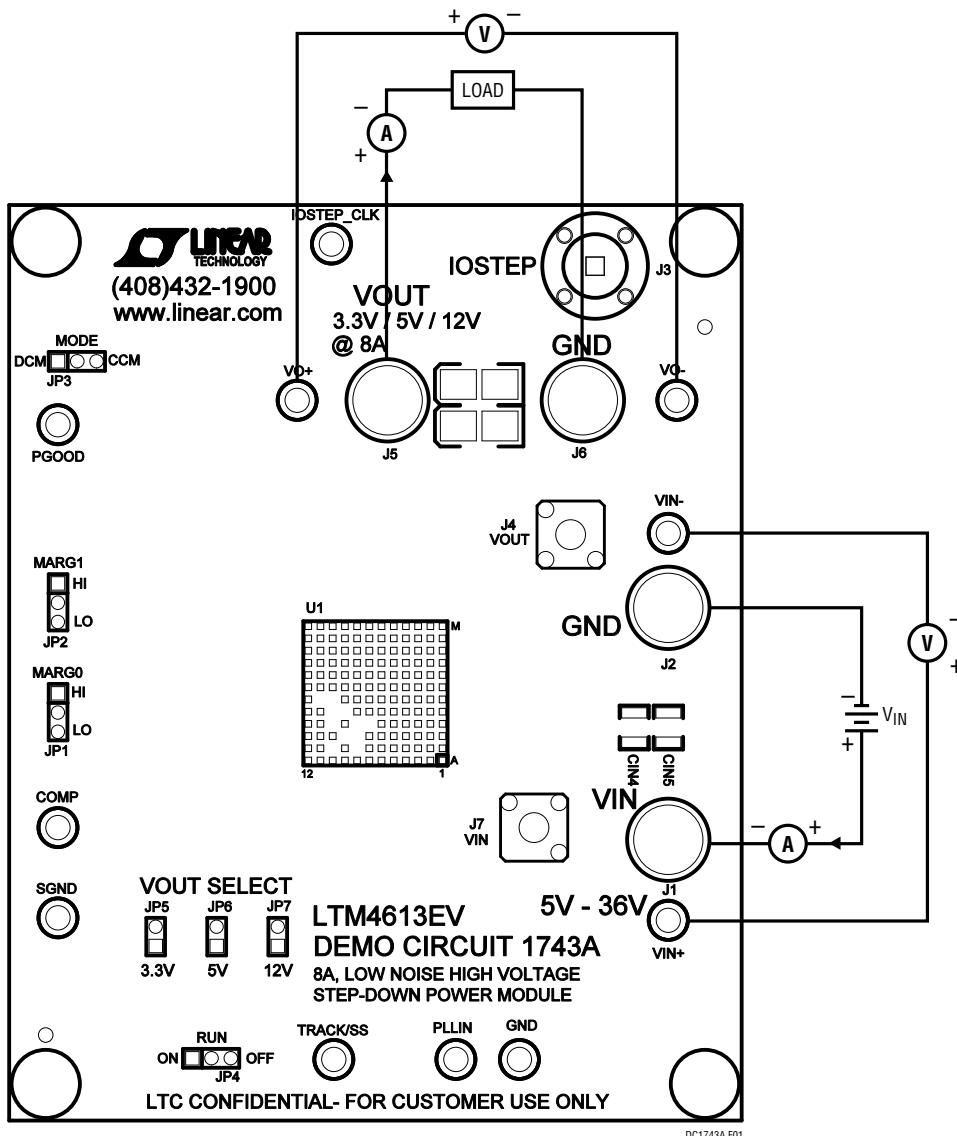

Figure 1. Proper Measurement Equipment Setup
Demonstration circuit DC1743A is an easy way to evaluate the performance of the LTM4613EV. Please refer to Figure 1 for proper measurement equipment setup and follow the procedure below:
2. With power off, connect the input power supply, load and meters as shown in Figure 1. Preset the load to 0A and V_{IN} supply to be 0V.